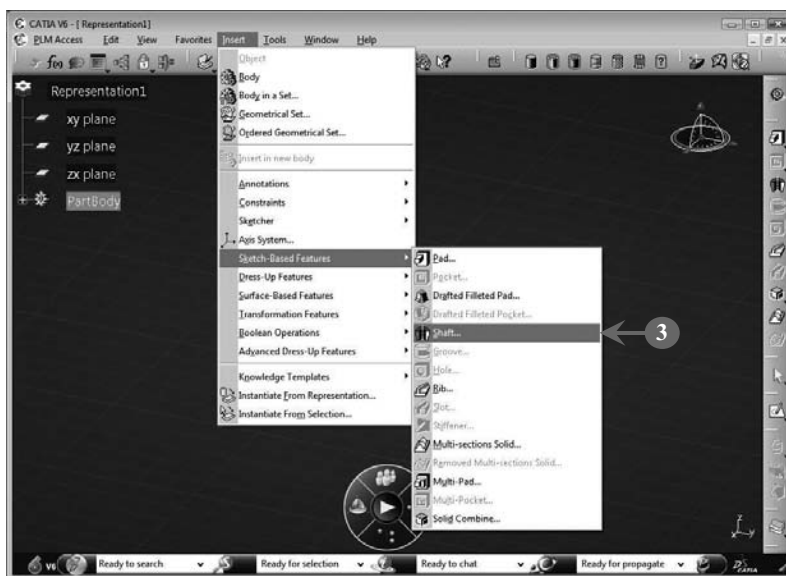

FIGURE 3.10
3. Select **Insert>Sketch-Based Features>Shaft** in the Part Design workbench to add the shaft feature, as shown in **Figure 3.10**: